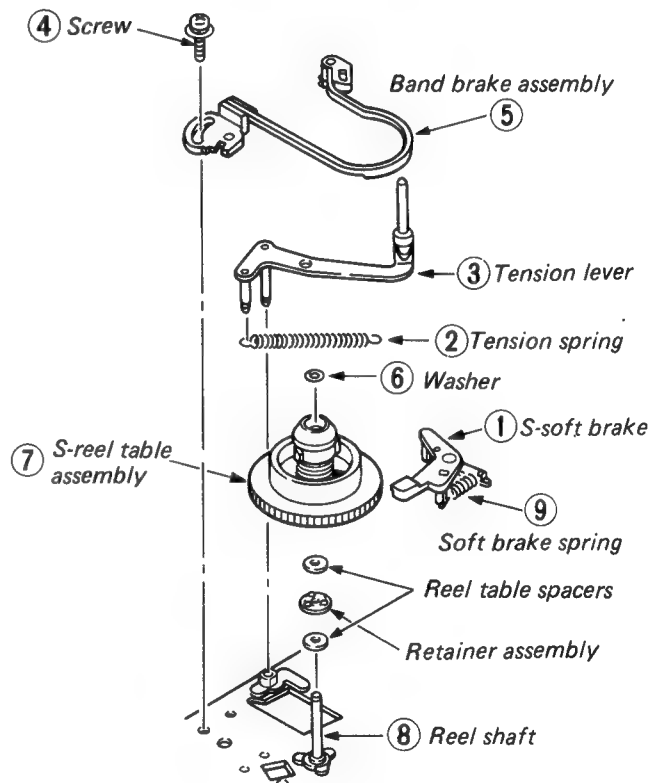

Fig. 1-3-33 Supply reel table assembly replacement
- 1) Remove the S-soft brake spring ⑨ from the S-soft brake ① (Refer to Fig. 1-3-33).
- 2) Remove the S-soft brake ①.
- 3) Remove the tension spring ② from the tension lever ③.
- 4) Remove the screw ④, then remove the tension lever ③ and the band brake assembly ⑤.